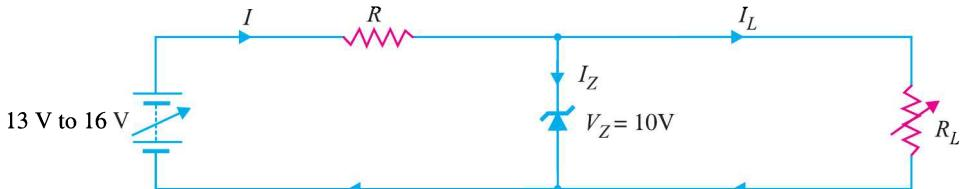

Fig. 6.65
**Example 6.29.** A 10-V zener diode is used to regulate the voltage across a variable load resistor [See fig. 6.65]. The input voltage varies between 13 V and 16 V and the load current varies between 10 mA and 85 mA. The minimum zener current is 15 mA. Calculate the value of series resistance R.